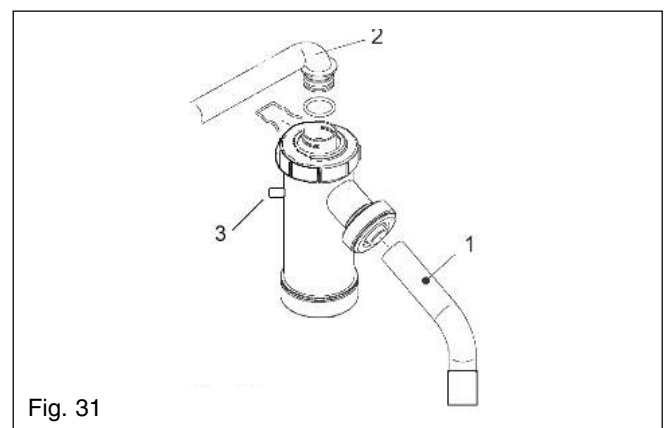

Fig. 31
6.29 CONDENSE TRAP REMOVAL fig. 31